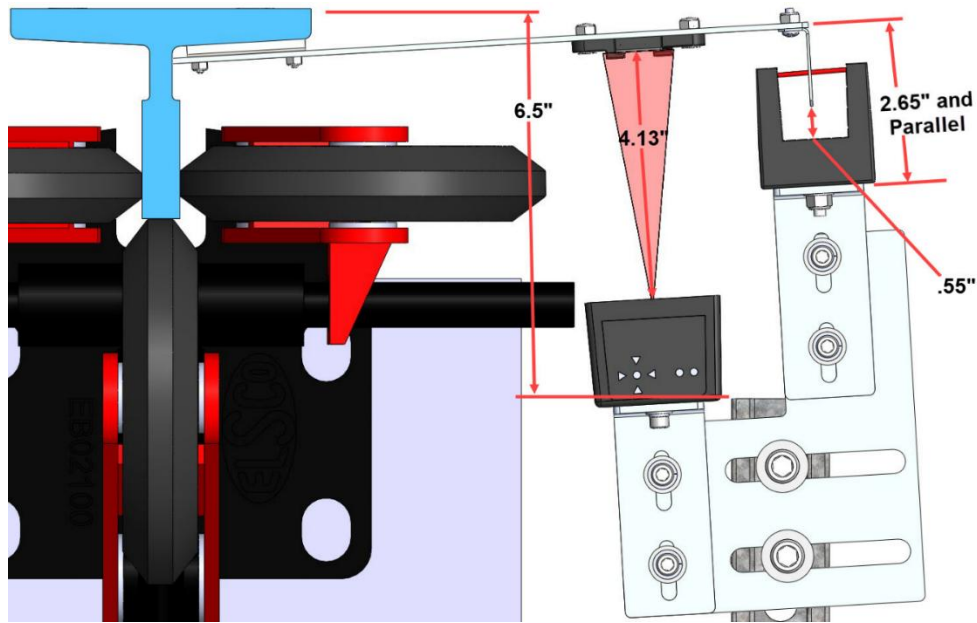

Figure 162: Sensor Array Assembly Positioning
5. Set the end of the 24" length Unistrut at 6.5" from the rear surface of the guide rail (See Figure 162).
6. Loosely bolt the Sensor Array Assembly onto the 24" length of Unistrut with the Door Zone Blade centered horizontally in the GLS Reader and parallel to the Tape Clip Assembly (See Figure 162).